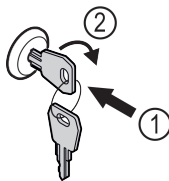

Fig. 205
- ▶ Insert the key. Fig. 205 (1)
- ▶ Turn the key clockwise by 90°. Fig. 205 (2)